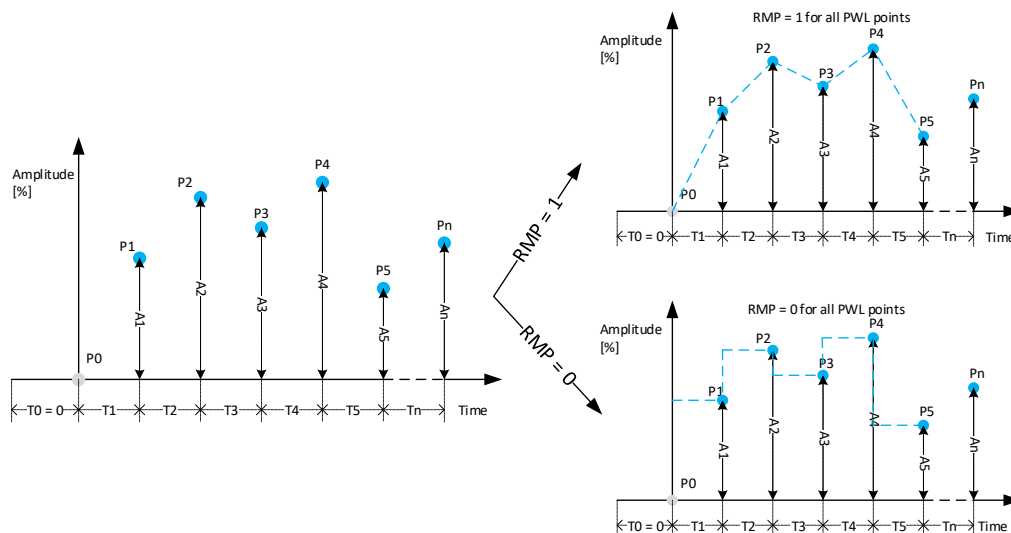

Figure 26: Snippet Example
A generic example of a snippet is shown in Figure 26. Pn represents the PWL pair located at amplitude An and with time step Tn, where n represents the PWL pair number. Note that a snippet played at the start of a non-looped sequence will start from a default point P0 set at zero amplitude; however, if the snippet is not at the start of a sequence or is read during the looping of a sequence, the starting point will be the last played PWL point.
**Note:** The starting amplitude at the beginning of a frame or snippet is dependent on the ending amplitude of the previous frame or snippet. The starting amplitude at the start of a sequence is zero, see Figure 26.